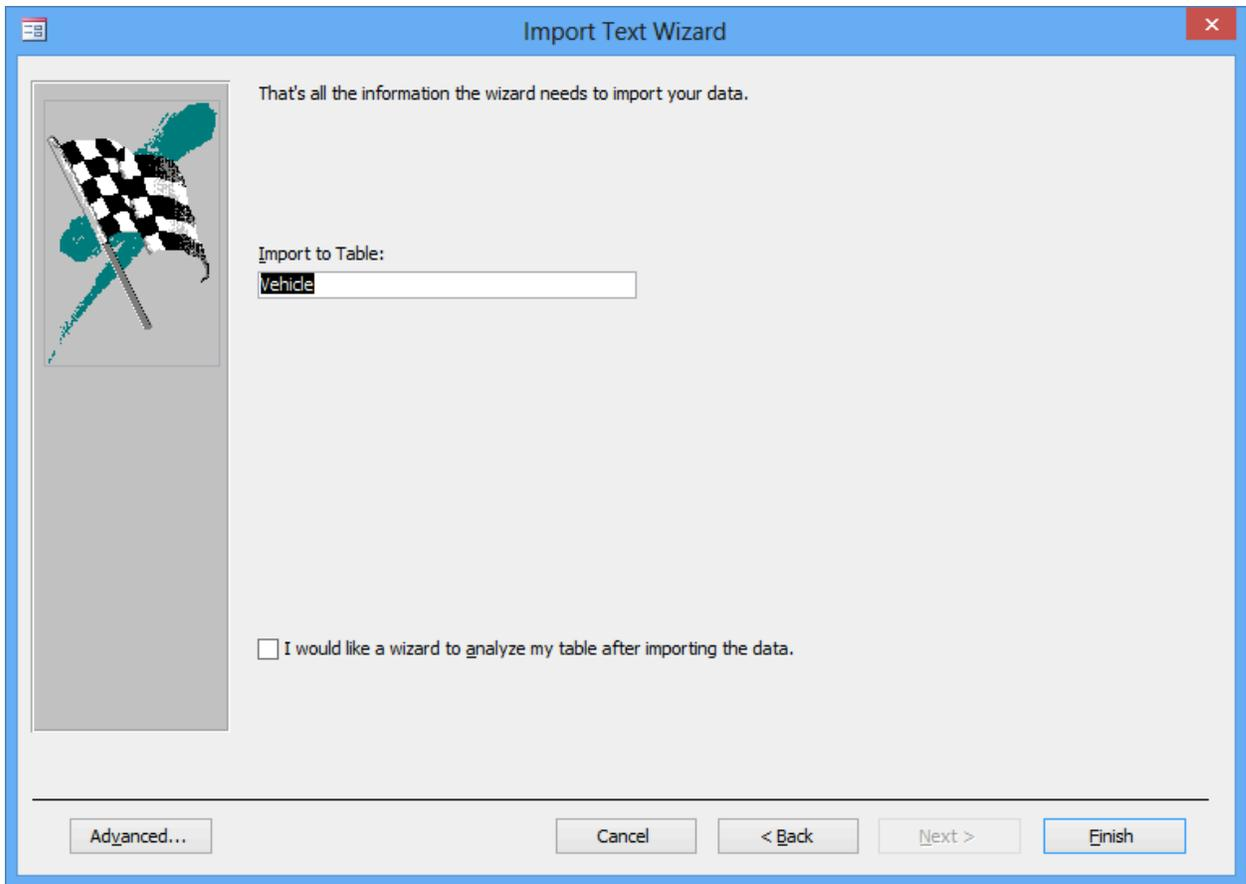

Figure 42: Final Wizard Window for Importing the *Vehicle* Table
8. Designate the Table Name: In the last window (Figure 42) make sure that *Vehicle* is the table name since Access uses the imported file name as the default name. Click the **Finish** button to import your table with data.